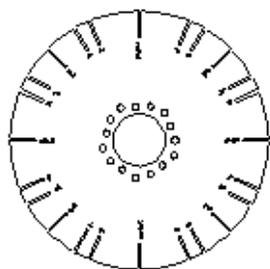

Figure 1
- **Step 2.** The first thing that needs to be determined is how many tire screws your application will require. Due to the many variables involved, the answer to this question is ultimately in the hands of the end user. **Remember: Tire screws are NOT intended to be an alternative to bead-lock wheels. Double beadlocks should be used in place of tire screws on vehicles that can exceed 200 mph in the quarter mile or 150 mph in the eighth mile.** If you are totally at a loss, refer to the table on the right for typical examples based on 1/8th mile ET's. Once you decide how many tires screws your application will require, the next step is to layout both sides of the wheel so you know where to start drilling the holes. Pictured in **Figure 1** is a tire screw diagram to assist in visualizing the screw locations. Alternate the screw holes between 45 and 90 degrees. Orient the holes in pairs opposite each other to ease balance and improve the appearance. Index the inside rim shell holes with the outside rim shell holes